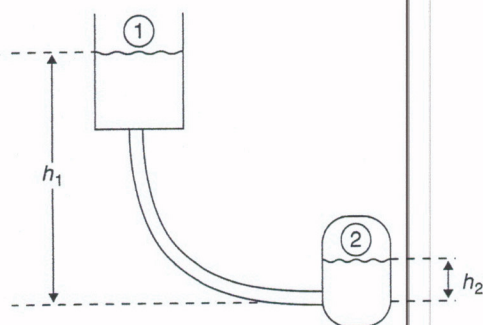

Figure 1.51
26. A pipeline of diameter  $d$  connects the fluid (density =  $\rho$ ) in an elevated open tank and a closed tank (Figure 1.51). The fluid is motionless. Determine the pressure in the lower tank in terms of the labeled heights.